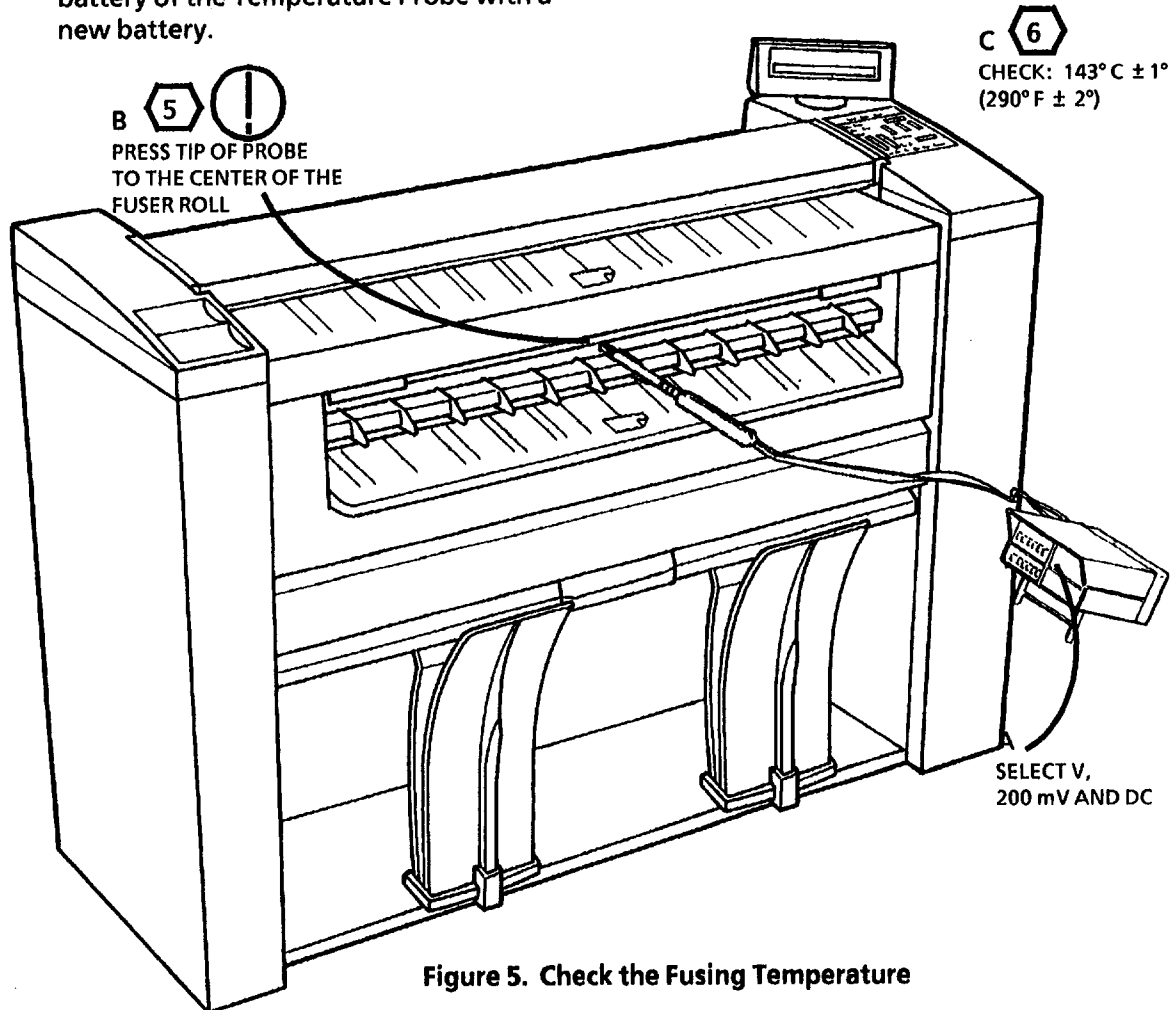

Figure 5. Check the Fusing Temperature
3. (Figure 5): Check the fusing temperature with the Temperature Probe.